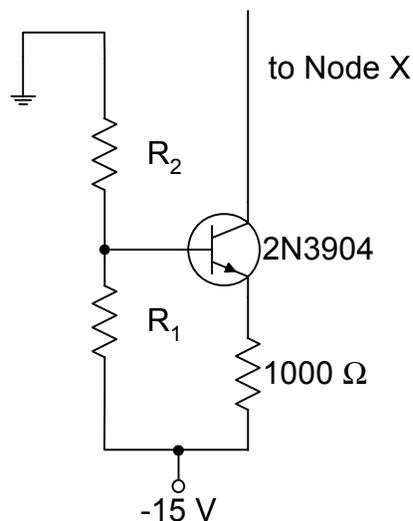

Figure 3: Current source for experiment 2.
- Replace resistor  $R_x$  in your differential amplifier with the current source of Figure 3. Repeat all your measurements in steps 1-3 above using the current source. Since there are no AC input resistance considerations, we can choose  $R_B$  to be very low for the current source, to make sure that transistor Beta does not affect the value of the current through the current source. **IMPORTANT: Design your current source to give exactly the same total current as that which flowed through the resistor  $R_x$  in the previous circuit.** [Use very stiff voltage divider biasing, i.e. make the current through  $R_1$  and  $R_2$  very large compared to the transistor base current.]